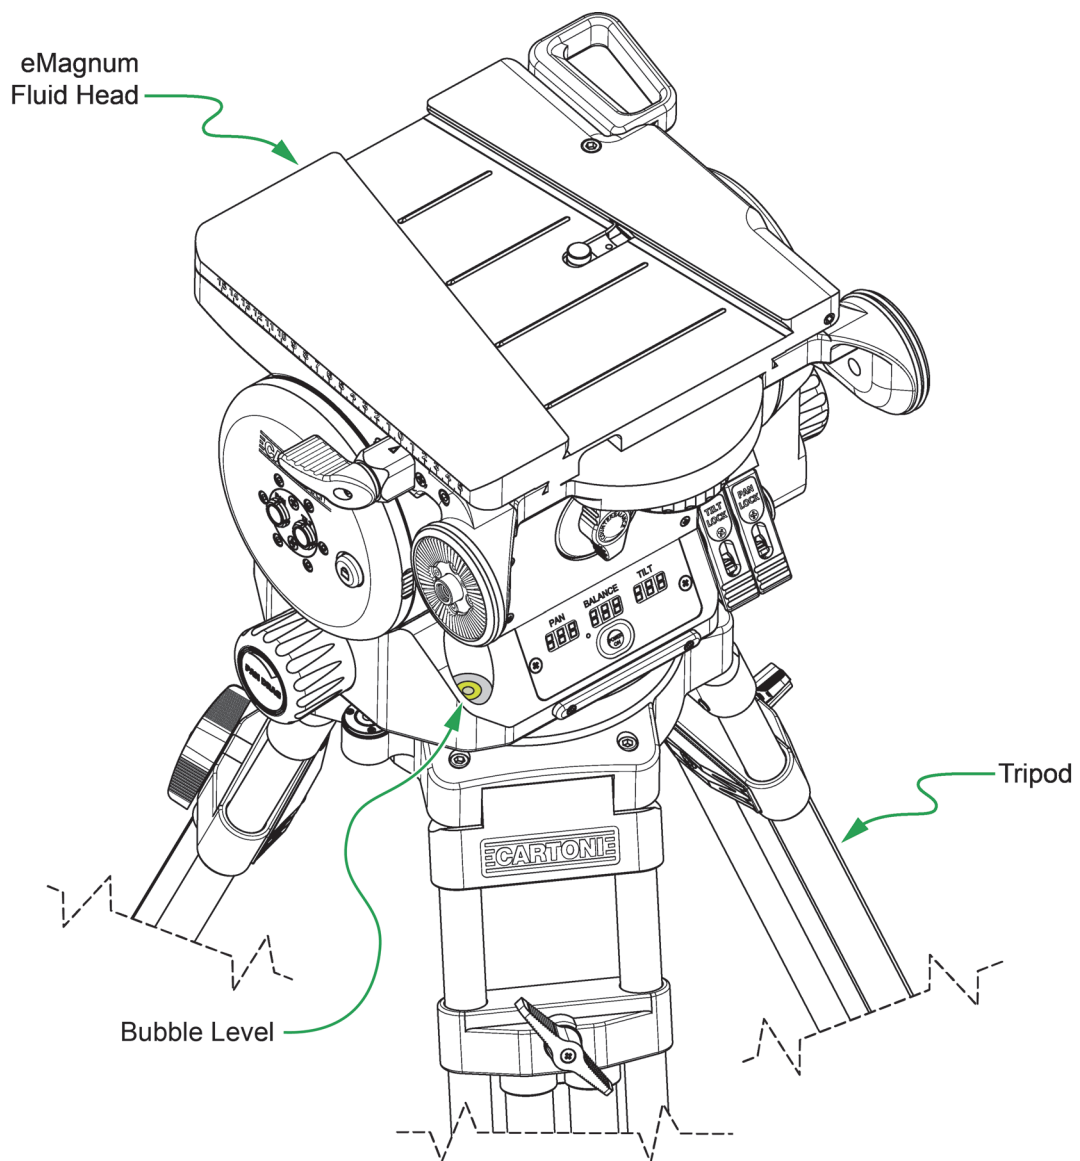

Figure 3.1 - Mounting and leveling the eMagnum fluid head
3. Level the head, referring to the built-in bubble level (see **Figure 3.1**).